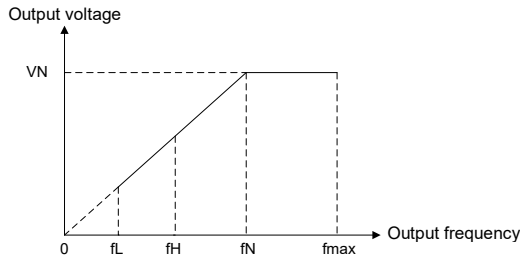

Fig. 6-8
B0-09 upper limit frequency is the user-defined maximum allowable run frequency and represented by f_H in Fig. 6-8.
B0-10 lower limit frequency is user-defined minimum allowable run frequency and marked with f_L in Fig. 6-8. In Fig. 6-8, f_N represents rated frequency of motor while V_N means the rated voltage of motor.
- The rank relation between maximum frequency, upper limit frequency and lower limit frequency is shown as Fig. 6-8.